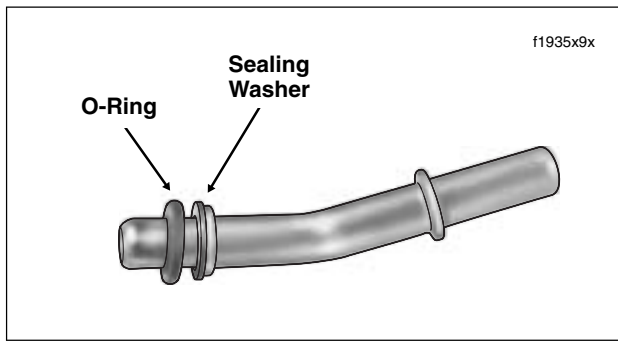

Figure 9-30. Install Fuel Supply Tube
5. Note the collar on each end of the fuel supply tube. Slide a **new** sealing washer down the shorter neck until it contacts the collar. Slide a **new** o-ring down the tube until it contacts the sealing washer. See Figure 9-30. Push tube into fuel rail bore until collar is flush with casting.